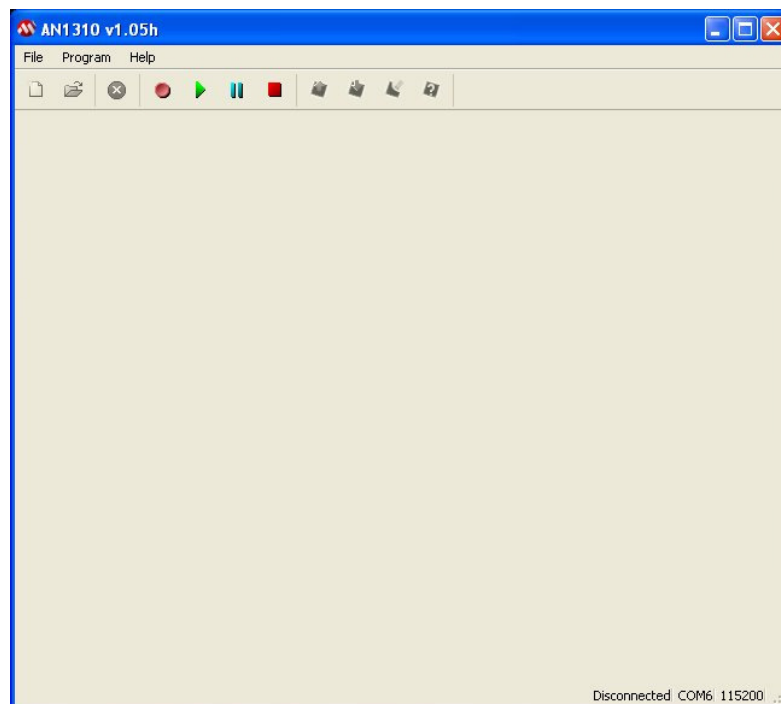
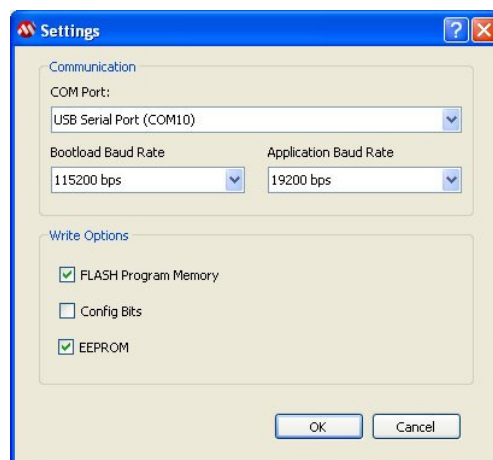

Figure 19. Bootstrap Loader Opening Screen.
Figure 21. Bootstrap Loader Settings Window.
3. The screen shown in Figure 19 is now displayed.
5. Click on the 'Settings' item from the drop down list or press <F12>. The Settings window will be displayed, Figure 21.
6. Select the COM port to which the Telran TDK USB or Sensor Board is connected. Ensure that Bootloader Baud Rate and Write Options are as shown in, Figure 21. Click the 'OK' button and return to the main screen, Figure 19.